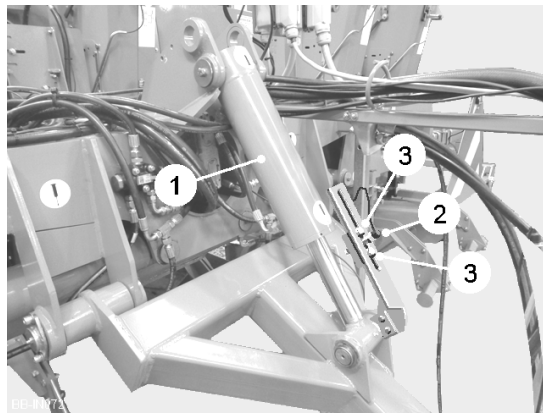

Fig 6
Planting depth is set by the ram (item 1, fig 6). The ram is used to set the machine into work and to lift the machine out of work at the end of the rows. The ram is operated by the switch marked ' FRONT RAISE / LOWER'. Planting depth is controlled by the sensor (item 2, fig 6). When lowering the openers into work, the sensor stops the depth ram at the preset depth. To increase the depth, loosen the two screws (item 3, fig 6) and move the sensor block further down the slot and resecure. Conversely, moving the block further up the slot will decrease the planting depth.